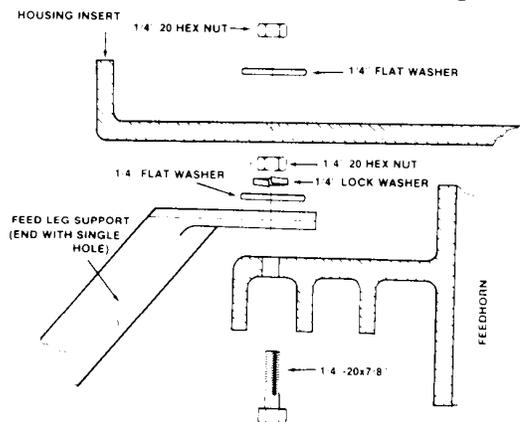

FIGURE 6
STEP 2: Attach support legs to feedhorn. See Figure 6.